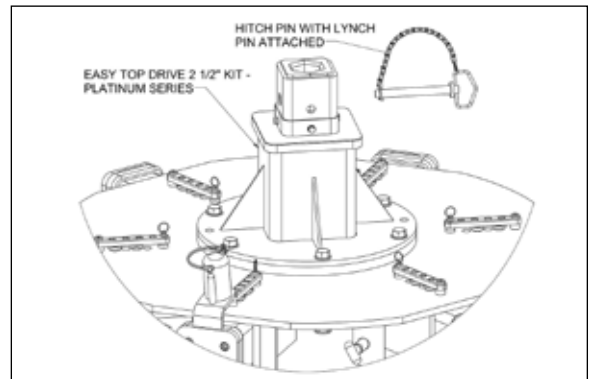

Figure 16. Hitch Pin With Lynch Pin Attached
- 17.** Attach the Easy Drive Top [K-MM0369] of the Six Shooter to the Auger Drive, securing it with the provided Hitch Pin With Lynch Pin Attached [P-MM0038]. See Figure 16.